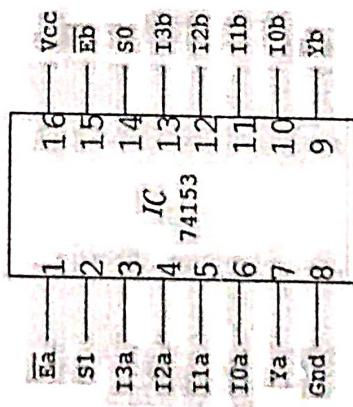

Figure 2: Pin diagram of IC 74153
In case of 4:1 Mux, there are four input lines, I₀, I₁, I₂ and I₃, which are to be multiplexed on a single line output line (Y). The four input lines are also known as the Data Inputs. Since there are four inputs, there is need of two additional inputs to the multiplexer, known as the Select Inputs. The purpose of select inputs is to select, which of the inputs is reflected at the output. Call these select lines S₁(A) and S₀(B). The pin diagram of IC74153, which is dual 4:1 Multiplexer IC is shown below in Figure 2.